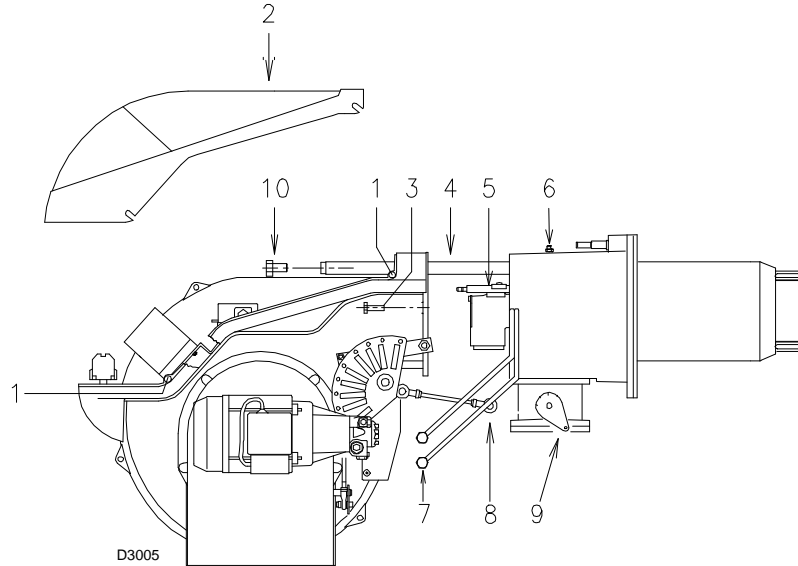

Fig. 44
Open the burner and make sure that all components of the combustion head are in good condition, not deformed by the high temperatures, free of impurities from the surroundings and correctly positioned. If in doubt, extract the internal part 5)(Fig. 44).
- Loosen screws 1)(Fig. 44) and withdraw the cover 2).